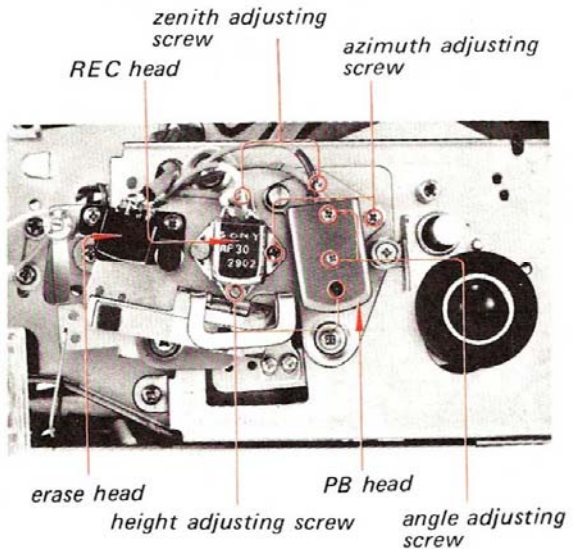

Fig. 3-2-10. Adjusting parts location for the items 4, 8 and 9
- Step 3. Adjust the PB head azimuth adjusting screw to obtain a maximum meter reading. (See Fig. 3-2-10.)
- Step 5. Turn the zenith adjusting screw by the same turns in same direction as in the step 4. (See Fig. 3-2-10.)